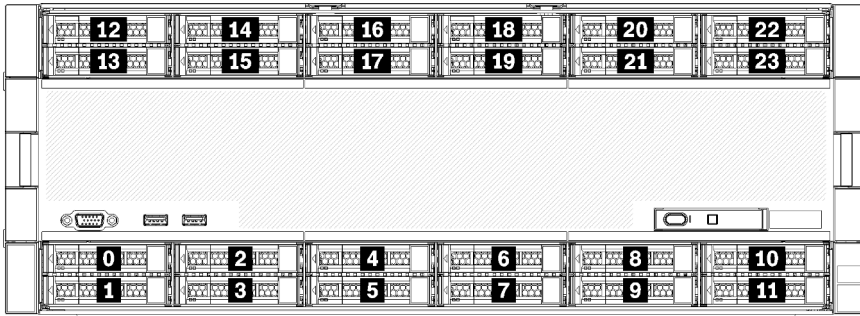

Figure 9. Drive bay locations
- Top two drives support SAS, SATA, or NVMe interface drives (Lenovo AnyBay). The server can support up to 12 NVMe drives, depending on the server configuration. The NVMe-capable drive bays are the even-numbered bays as shown in Figure 9 “Drive bay locations” on page 23.